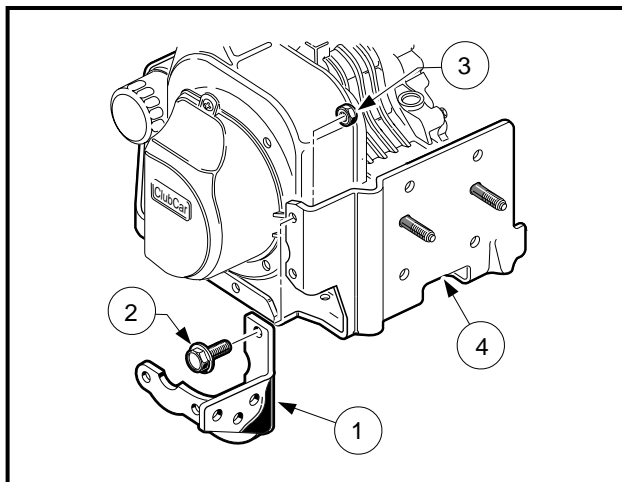

Figure 12-25 Remove Stiffener
5. Cut the wire tie holding the wire harness to the stiffener (1) and remove the bolts (2) and nuts (3) securing the stiffener to the mounting plate (4) (**Figure 12-25, Page 12-25**).
15. Install the stiffener with four hex head bolts and lock nuts. Tighten the hardware to 23 ft-lb (30.5 N·m) (**Figure 12-25, Page 12-25**).
17. Secure the wire harness to the stiffener with a wire tie. Place the wire tie through the lower hole at the back of the stiffener (**Figure 12-25, Page 12-25**).